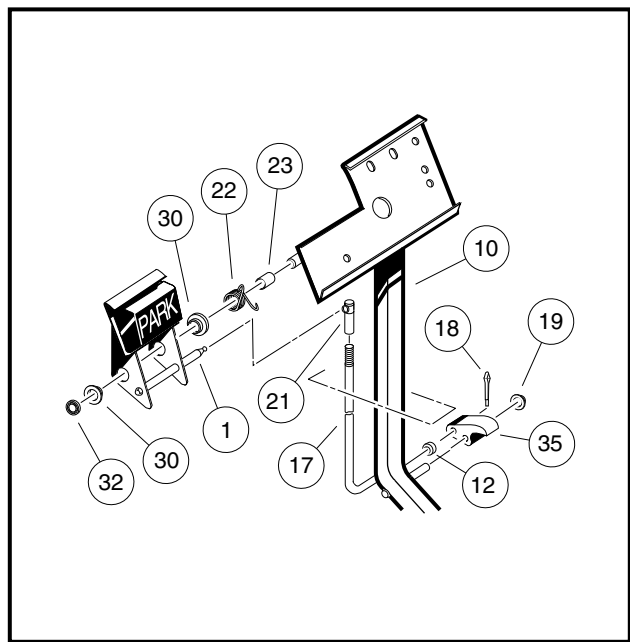
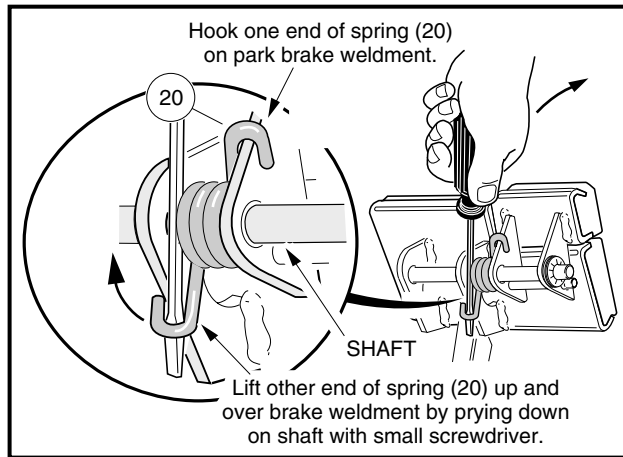

Figure 5-4 Park Brake Assembly
Figure 5-5 Torsion Spring Installation
NOTE: New push nuts (19) and (32) must be used when reassembling the park brake (**Figure 5-4, Page 5-4**).
- 3.2. To remove the park brake pedal (1), remove the push retainer nut (32), disconnect the torsion spring (22) (**Figure 5-4, Page 5-4**) and slide the pedal off of the shaft. **See preceding NOTE.**
1. From the bottom side of the floorboard, insert the park brake rod (17) through the brake pedal assembly opening as shown (**Figure 5-4, Page 5-4**). Then install the park brake pawl (35) onto the shaft on the brake pedal assembly (10) and also insert the park brake rod (17) into the park brake pawl.
2. Install the push nut (19) on to the park brake pawl shaft.
3. Install the spacer (23) and torsion spring (22) on the park brake pedal shaft on the brake pedal assembly.
4. Install the two bushings (30) in the park brake pedal and position the park brake pedal on the shaft on the brake pedal assembly weldment (10) (**Figure 5-4, Page 5-4**). Then attach the ends of the torsion spring to the park brake pedal and to the brake pedal weldment as shown (**Figure 5-5, Page 5-6**).
5. Install the push nut (32) on the park brake pedal shaft (**Figure 5-4, Page 5-4**).
6. Connect park brake rod (17) with ball joint (21) to the ball stud on the park brake pedal assembly (**Figure 5-4, Page 5-4**).